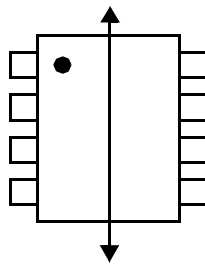

Figure 26. Cross-Axis Field Direction
15. External magnetic field immunity is improved by this factor if the field direction is "end-to-end" rather than to "pin-to-pin" (see Figure 26 on page 15).
Immunity to external magnetic fields is even higher if the field direction is “end-to-end” rather than to “pin-to-pin” as shown in Figure 26: